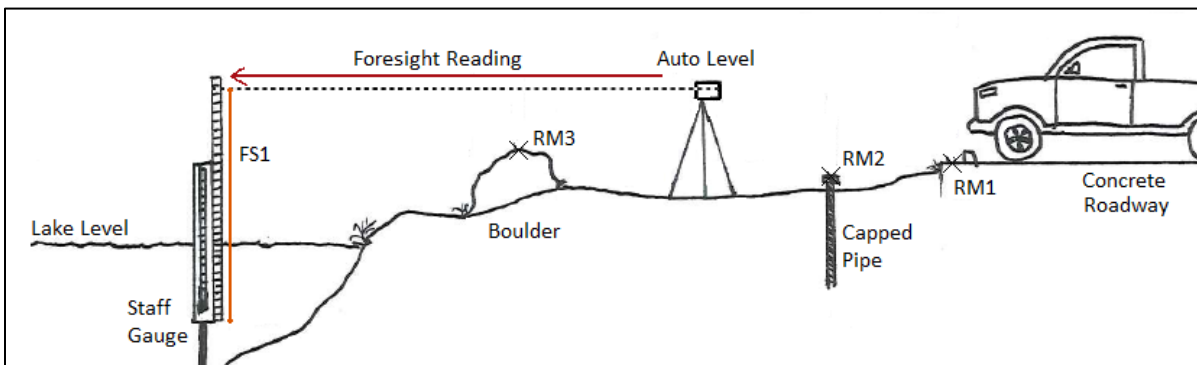

Figure 7. Foresight reading (FS) of a staff gauge with an auto level and stadia rod
- Place the rod on the heavy stainless steel lag bolt at '0.00' marker of the staff gauge and read the rod through the survey instrument. This is called your foresight (FS) reading (Figure 7).